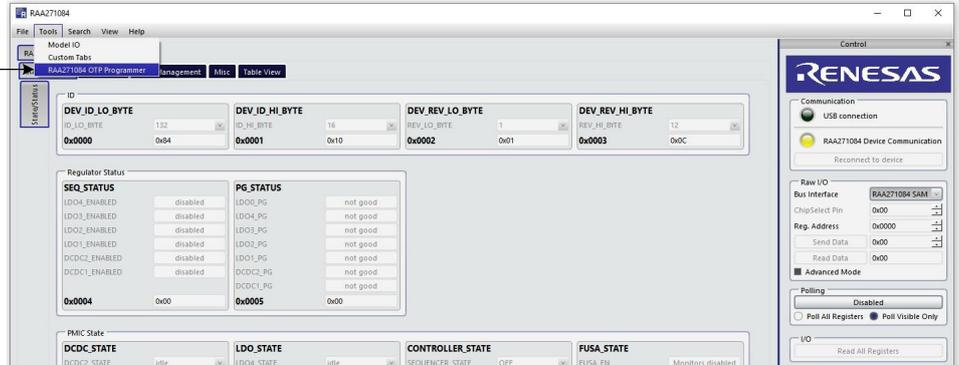

Figure 5. OTP Programming Sequence
3. Start the OTP programming widget located in the **Tools** dropdown menu (Figure 5).